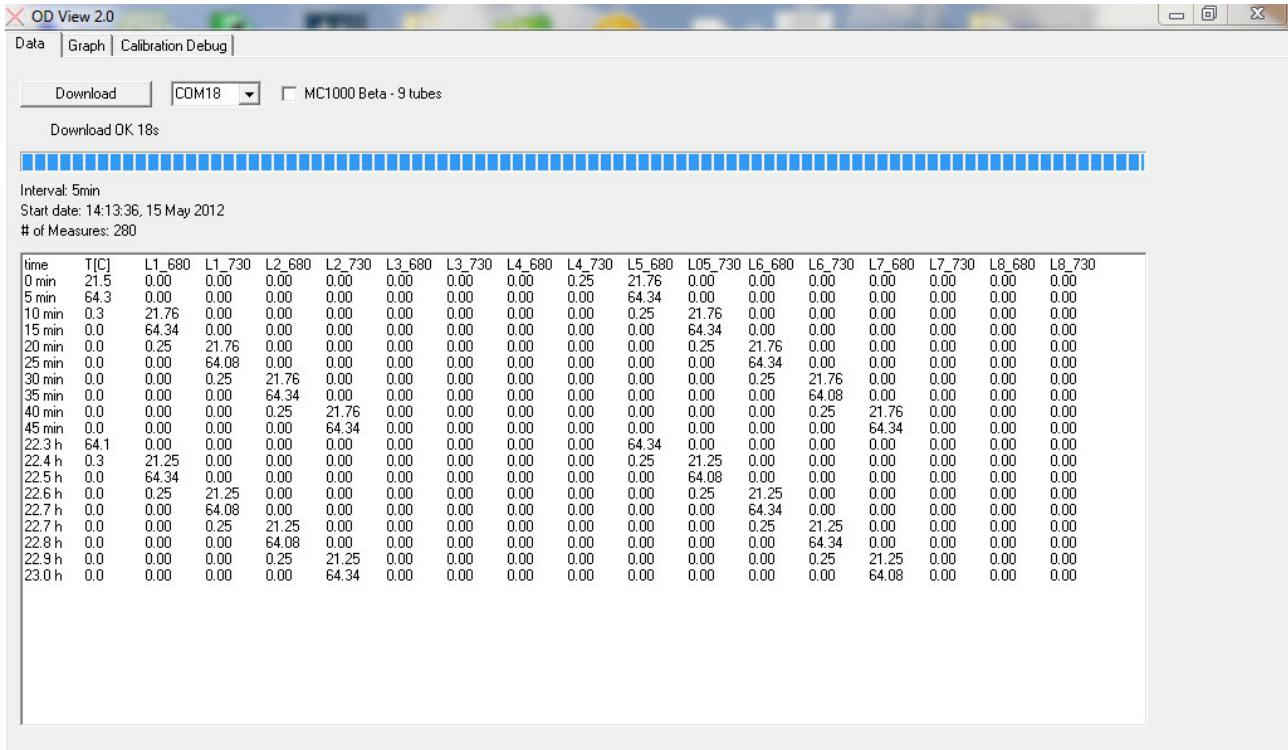

Fig. 25 OD and Temperature downloaded data window.
4. Click “detect” button for the software to connect with the Multi-Cultivator control unit. Once the connection has been established click download button that appears. The stored data from the MC 1000-OD control unit will be downloaded and the following screen will appear as shown in Fig. 25.